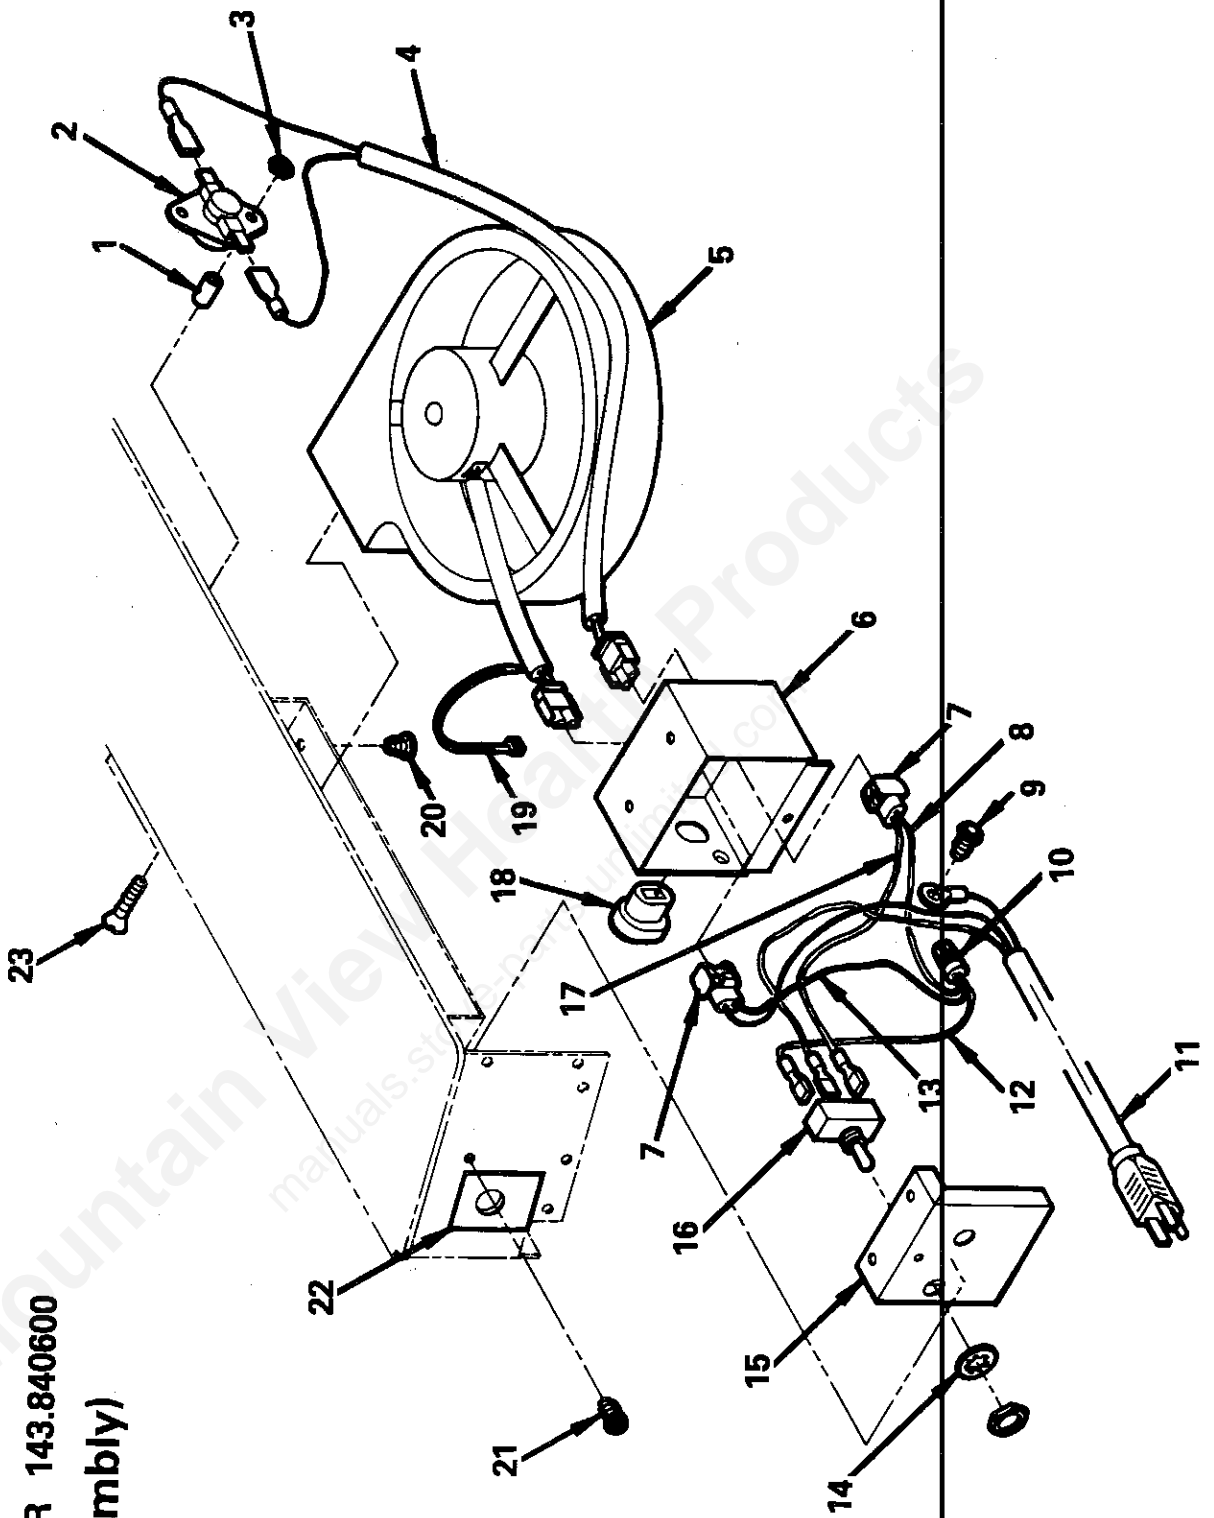

**FIG. 15**
2. Assemble right hand door handle as shown in Fig. 15. Slide handle into hole at the top of door. Add (1) washer and latch (making sure handle is horizontally — 3 o'clock position, latch will be 30° off of vertical centerline of hole — 11 o'clock position; bent part of latch will be on the right when looking at insert from front). Next, add (1) 7/16"-20 nut onto threaded shaft of handle and tighten.